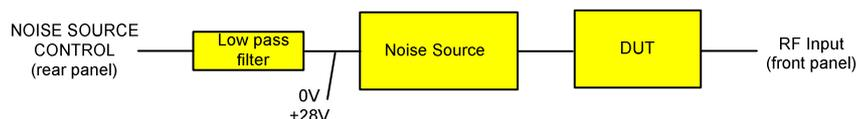

Fig. 2-30: Test setup for the main measurement
1. Insert the DUT (in this example, the amplifier) into the test setup between the noise source and RF input of the R&S ESL (see Fig. 2-30).